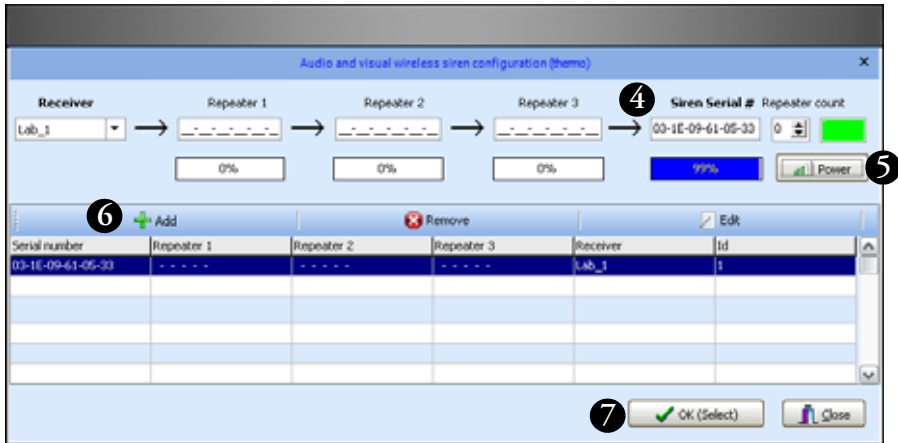

Figure 88. Add the siren to a receiver (Lab_1 in this example)
5. In the Siren field (#4 in Figure 88), enter the wireless address printed on the label on the siren, then click on Power (#5). The signal power level must be 30% or higher to ensure reliable communications.